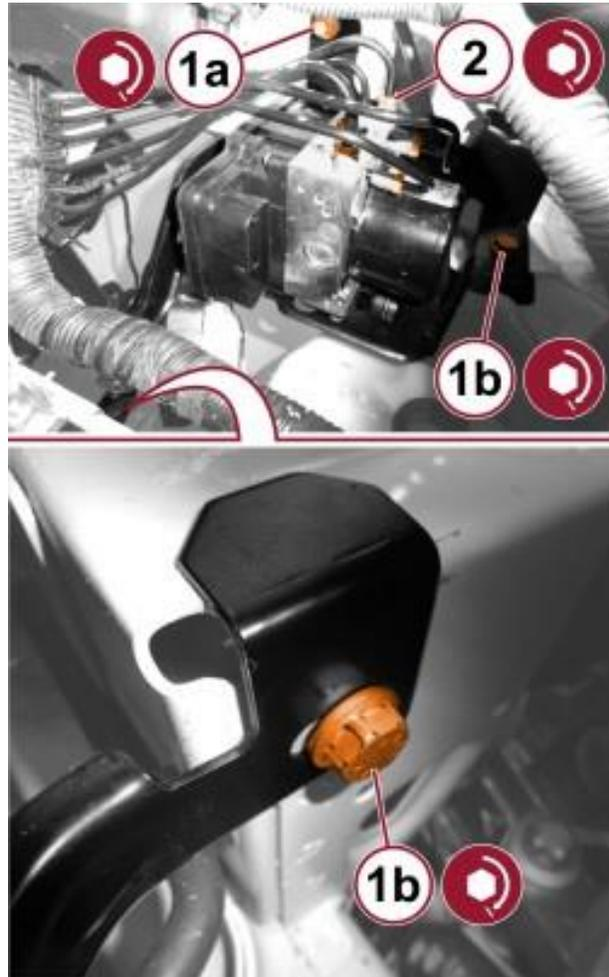

Figure 15 – ABS Bracket Assembly
2. Place the complete ABS control unit support in position and tighten the nut (1a) and screws (1b) to 27 N·m (20 ft. lbs.) (Figure 15).